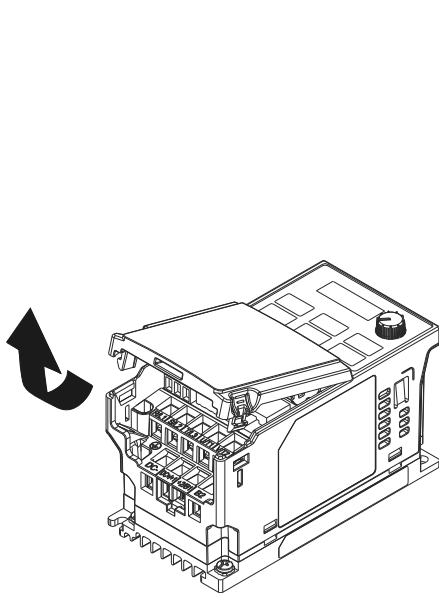

Figure 8-1
1. As shown in Figure 8-1, switch off the power of the motor drive, and then remove the front cover.